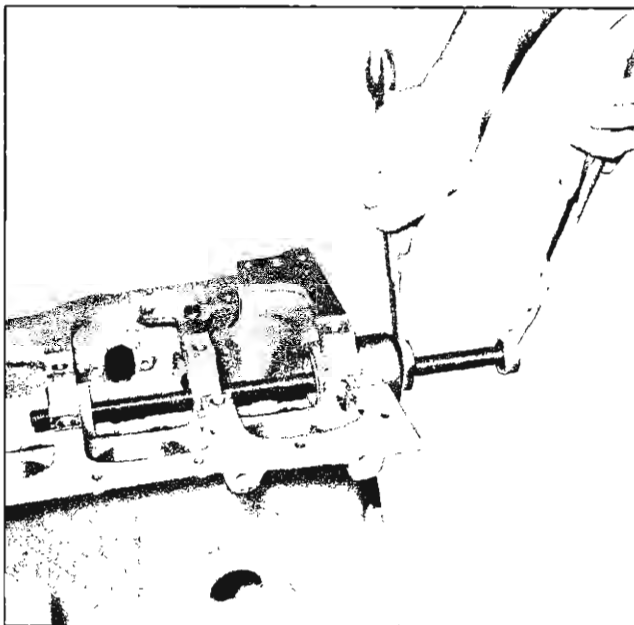

Fig. 41—Removing Camshaft Bearings
5. Using two wrenches, hold screw shaft and turn puller nut to remove bearing (fig. 41).